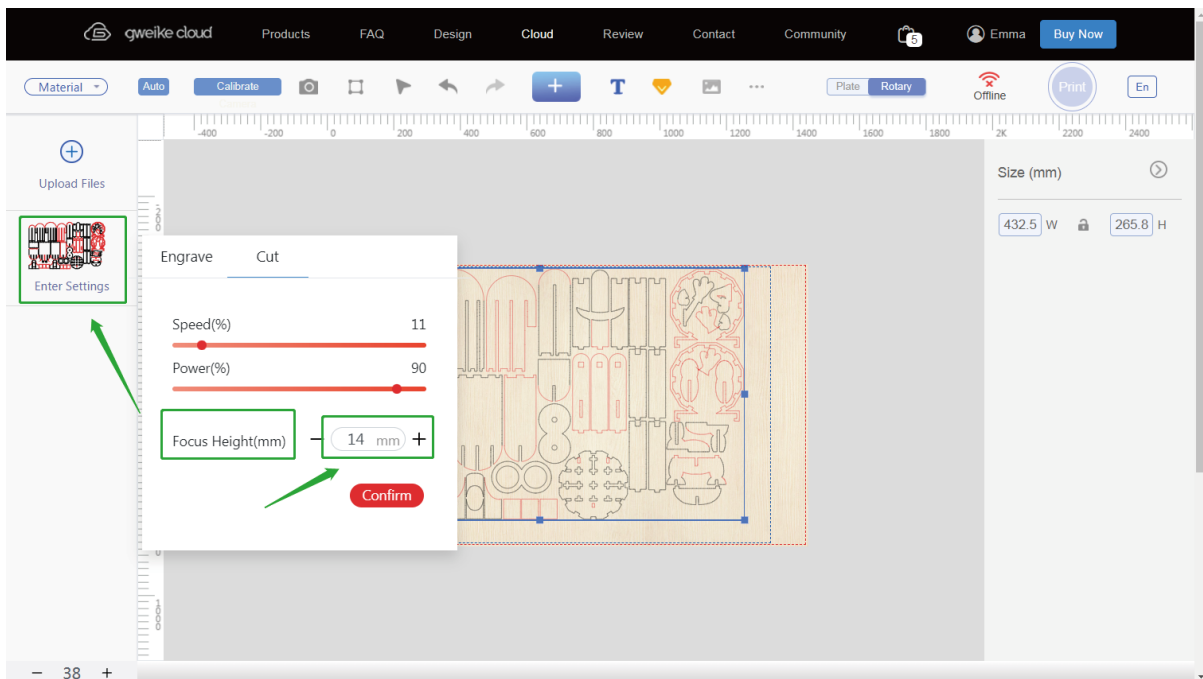

Figure 1
2) If the cutting material is of other thickness (within 0-17mm), place the material on the honeycomb panel, enter the website operation page, and click the blank area above the Select SVG on the left side of the page (as shown in the green box in Figure 1), in Focus Height Enter the parameters and click Confirm to complete (refer to Table 1 for focal length parameters). For example, when the material thickness is 2mm, the Focus Height is set to $17\text{mm} - 2\text{mm} = 15\text{mm}$. Enter 15mm in Focus Height. Among them, 17mm is a fixed value, and Focus Height value = $17\text{mm} - \text{material thickness}$.